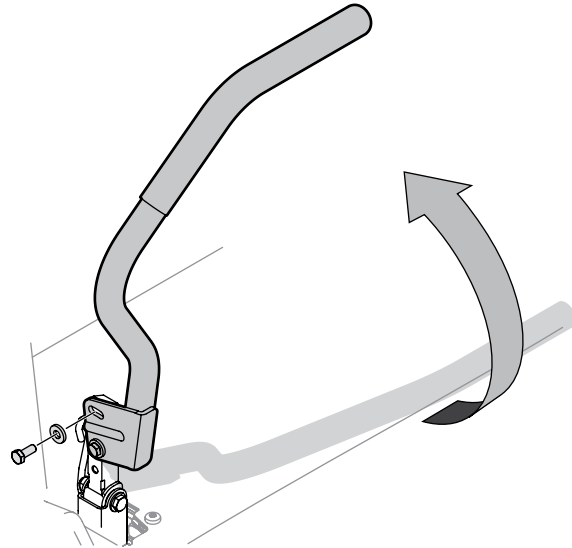

Figure 2
1. Pivot the right lap bar upward and fasten it to the mounting bracket with a hex screw and flat washer packed separately. Refer to Figure 2. Do *not* tighten at this time.